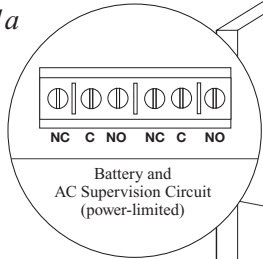

Fig. 1b
**Note:** When used in fire alarm, burglar alarm or access control applications, “AC Fail” relay should be utilized to visually indicate that AC power is on. To delay report for 6 hours cut “AC Delay” jumper (*Fig. 1b, pg. 3*).